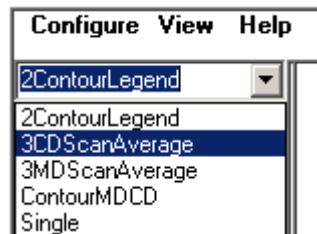

Figure 27. Selecting a Display Format
1. Use the Display Selector to select a display format, Figure 27.